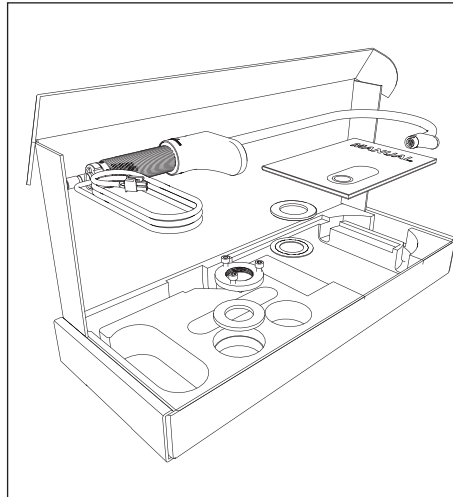

Fig. 3.1 Package contents of the tap
| Fig. 3.1 Package contents of the tap | 4 |
3.1 Package contents of the tap (see fig. 3.1).